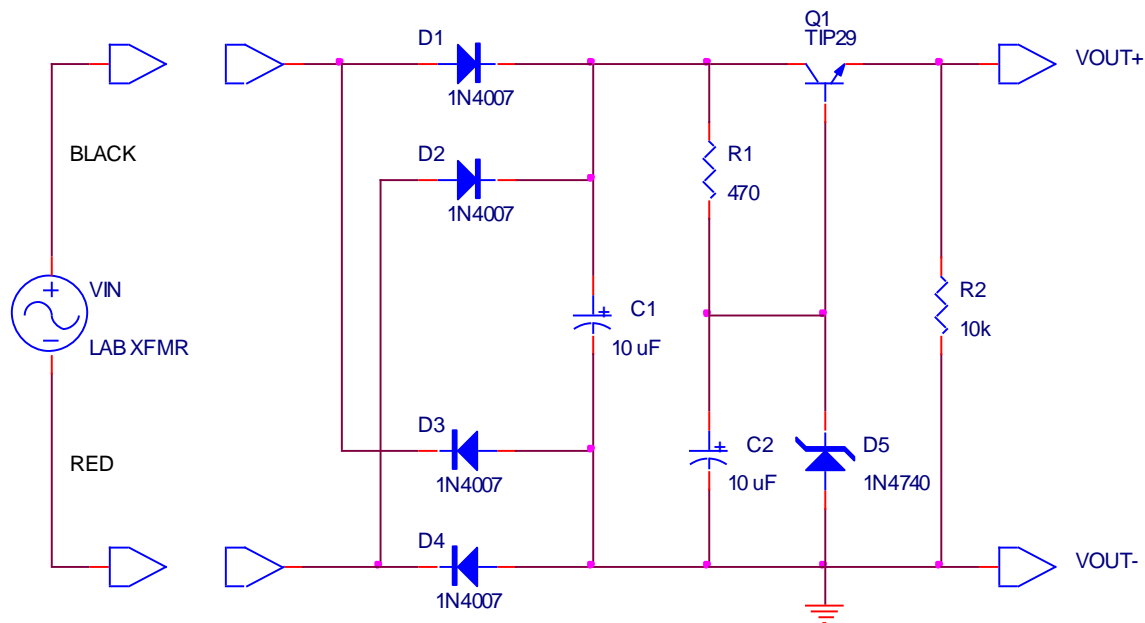
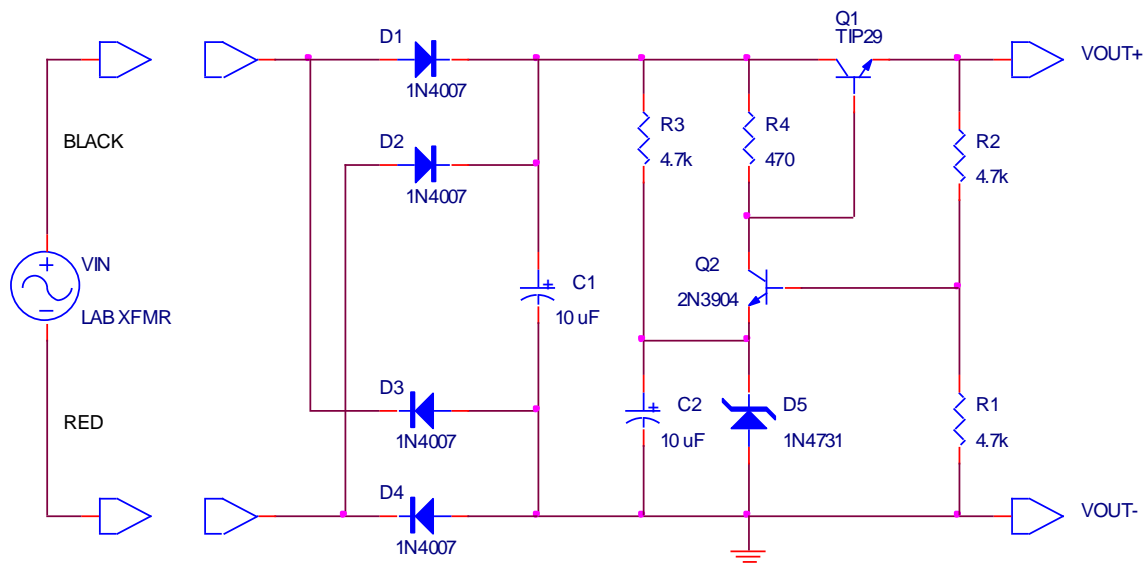
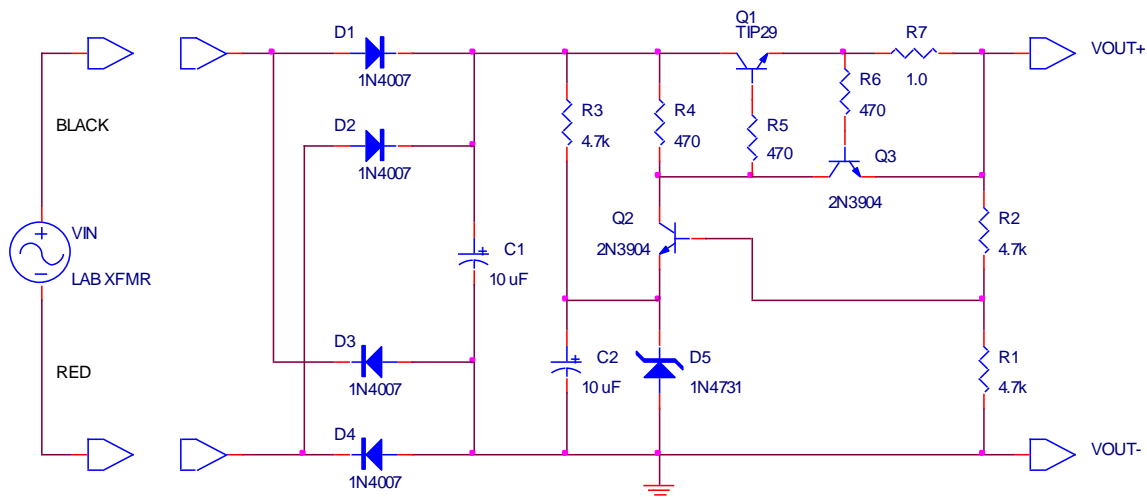

Figure E5.1
Figure E5.2a
Figure E5.2b
**Comment** The purpose of a voltage regulator is to maintain a constant output voltage across an arbitrary load, independent of the current that is drawn by the load, and independent of the input supply voltage. The simplest form uses a zener diode to provide a reference voltage and then this reference voltage is amplified by a common-collector (CC) or emitter-follower (EF) amplifier stage to provide a low output resistance voltage source. The voltage regulation of this circuit is poor, because the zener diode and base-emitter voltage of the series pass transistor both vary with the load current. Nevertheless, it is a simple circuit to start with. It will be successively improved in procedures 2 and 3 with the addition of various feedback paths.
**Set-Up** Using a solderless breadboard, construct the circuit shown in Fig. E5.1 using the following components:
**Set-Up** Modify the circuit of Fig. E5.1 to that of Fig. E5.2a by inserting another BJT, shown as Q2, whose base samples the output voltage through R1 and R2 and whose collector drives the series pass transistor Q1. Note that D5 is changed to a 1N3509 or 1N4731 (4.3 V) zener diode.
Modify the circuit of Fig. E5.2a to that of Fig. E5.2b by adding  $Q3$ ,  $R5$ ,  $R6$ , and  $R7$ .
Measurement-2b Turn ON the lab transformer and use a bench DMM to monitor the output voltage across R1+R2. Record the output voltage under these conditions of minimal loading; it should be very similar to that measured earlier for Fig. E5.2a.